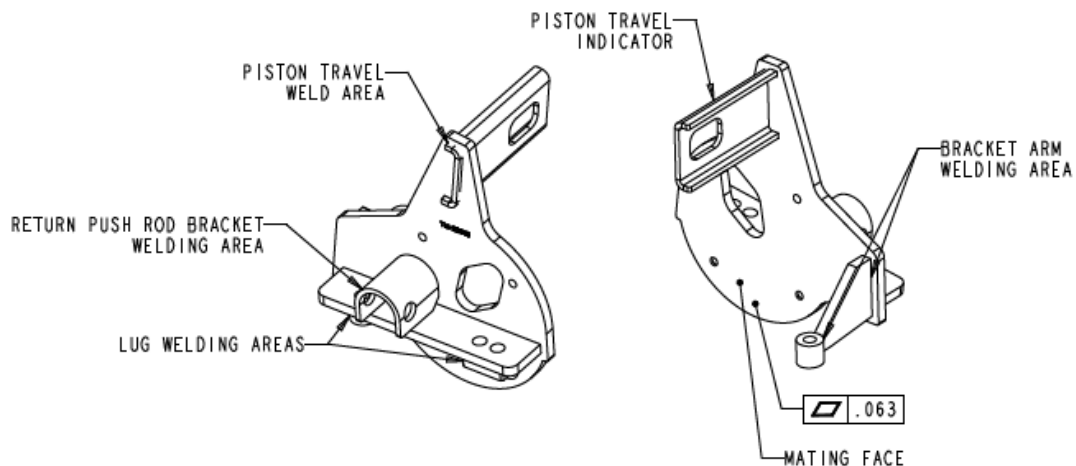

Figure 7. Air Actuator Bracket Condemning Limits
- 7.8.1 Flatness of mating face may not exceed .063", see Figure 7. If flatness of mating face exceeds .063", the part must be replaced.
- 7.8.2 Inspect areas highlighted in Figure 7 for cracked, broken, or missing welds.